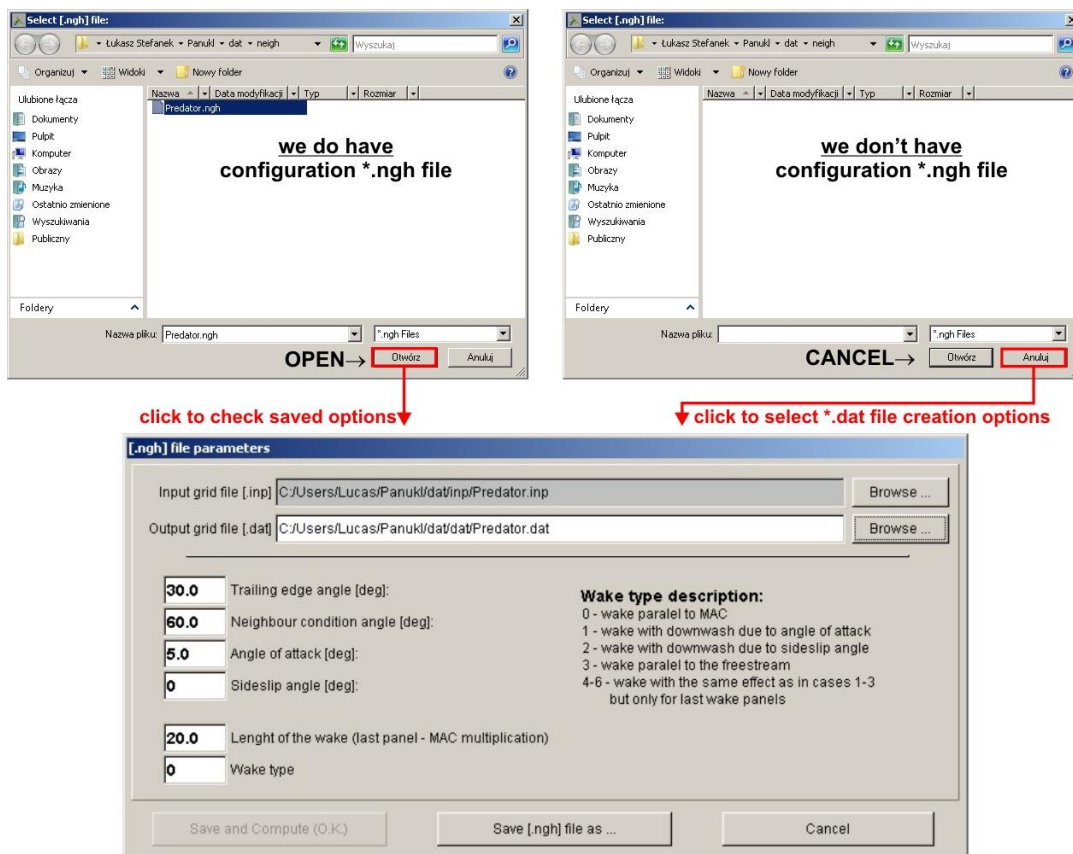

Fig. 13 – The dialog window to run Neigh program
### Option No. 1 – we do have saved on disk configuration file [.ngh], Fig. 13
Run **Create grid file with the neighbours** and select saved configuration file [.ngh] – file contains all necessary information to create [.dat] file. To open selected [.ngh] file click **OPEN** button. Configuration window will appear (Fig. 13) where one can see saved [.dat] file creation options. To generate [.dat] file click **Save and Compute (OK)** button.
### Option No. 2 – we do not have saved on disk configuration file [.ngh], Fig. 13
Run **Create grid file with the neighbours** and click **CANCEL** button when prompted for saved configuration file [.ngh]. The configuration window will appear (Fig. 13) where user can select options to create [.dat] file. To save current [.dat] options to [.ngh] file click **Save [.ngh] file as**, to create [.dat] file click **Save and Compute (OK)** button.